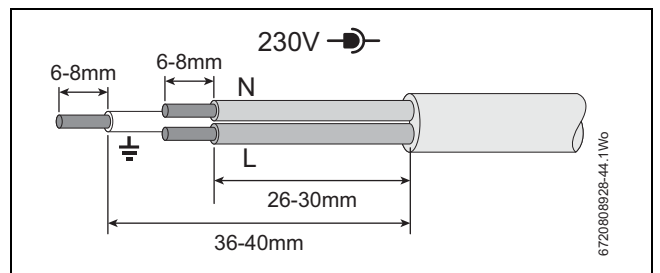

Fig. 32 Mains voltage (power cables) preparation
- ▶ Connect the cable so that the protective earth conductor is longer than the other wires as per figure 32.
Mains voltage (power cables), example → Figure 32